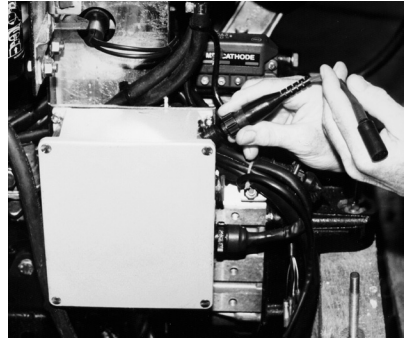

Figure 35
- 1) Locate the D-Tronic data connector as shown in Figure 35. Remove the data connector's protective cover.